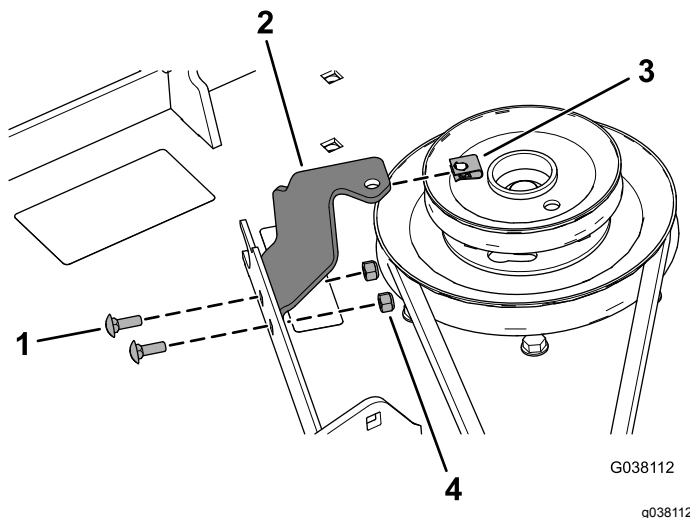

Figure 31
7. Install the belt-cover bracket to the mower deck using 2 carriage bolts (1/4 x 3/4 inch) and 2 locknuts (1/4 inch) as shown in Figure 31.
8. Install the speed nut onto the belt-cover bracket (Figure 31).